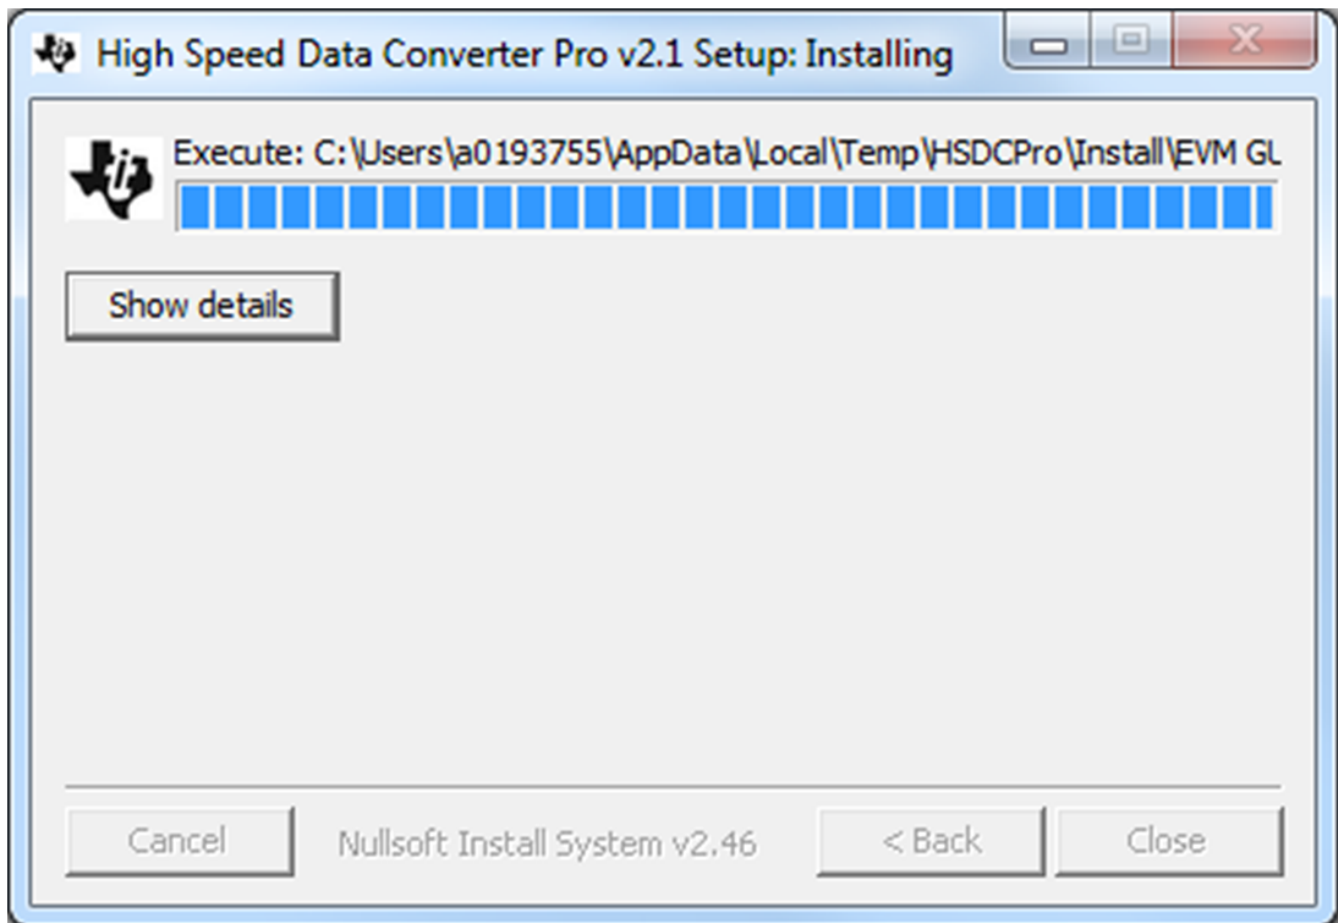

Figure 47. HSDCPro Install (h)
- The window shown in Figure 47 appears briefly to complete the process.